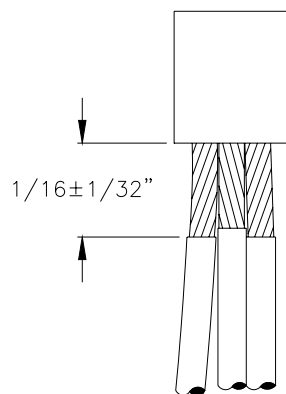

Figure 1
1. Strip the wires and install crimp type connector or solder wires together. Connector should be installed so that  $1/6 \pm 1/32$  of conductor is exposed between the connector and the wire insulation, as shown in Figure 1.